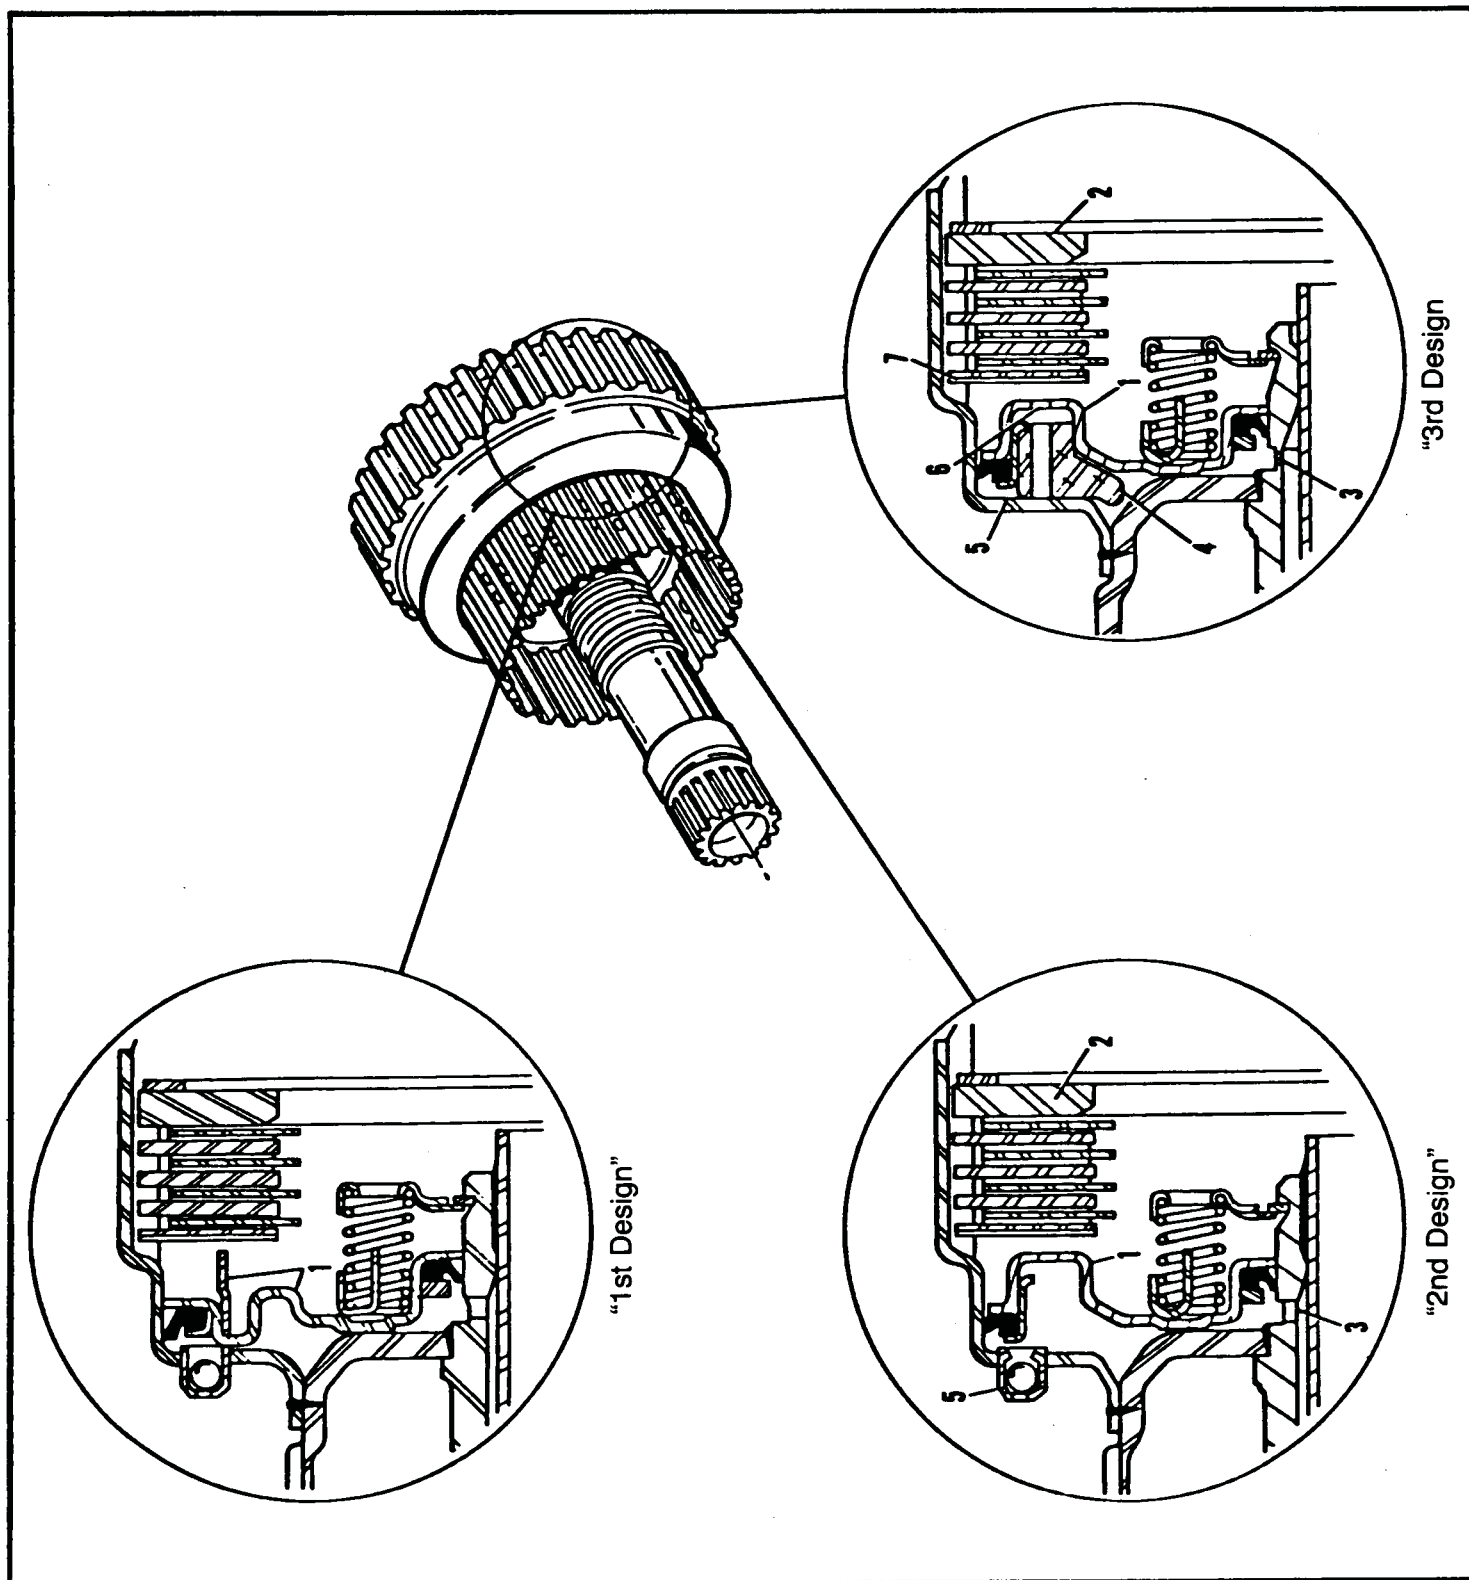

Figure 30
- 1) The forward clutch piston was redesigned, eliminating the apply ring (See Figure 30).
- 1) The forward clutch feed orifice was made smaller, (Figure 30, Item 3) and an oil displacement insert was added (Figure 30, Item 4).
- 2) The check ball capsule was eliminated and two exhaust holes were added to the new forward clutch piston (Figure 30, Item 6). When the piston is applied the exhaust holes will seal against the wave plate.